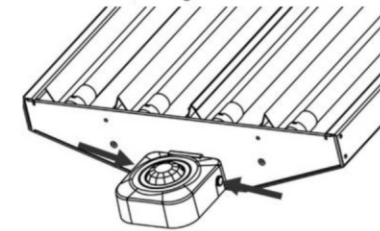
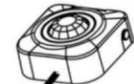

Fig.4A
Fig.4B
- 1.Press down the two-sides buttons simultaneously, and extract out the main part of sensor switch. (Fig.4A and Fig.4B)